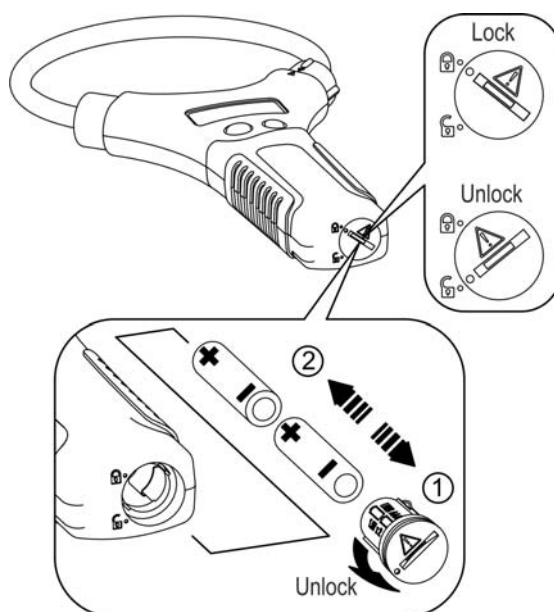

Fig. 4: Batteries replacement
2. Rotate the fixing screw of the battery cover from the "Lock" to the "Unlock" position, remove the cover and extract the batteries (see Fig. 4)
3. Fit two new batteries (see § 6.1.3) and pay attention to correct polarity (see Fig. 4)